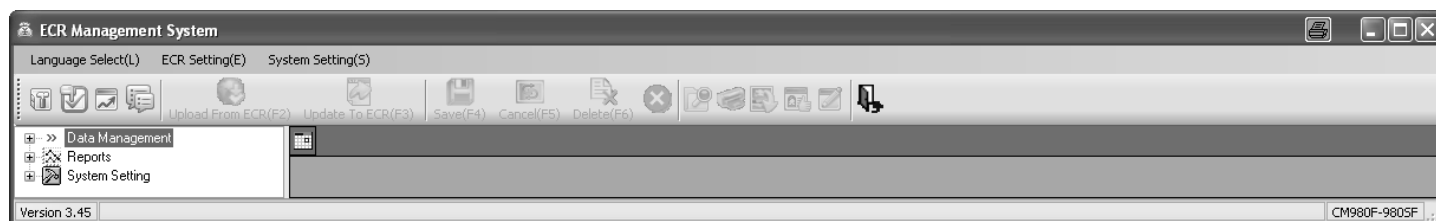

Fig. 4
The programme mask appears in which you can define all the settings (see Fig 4):
- Click on the plus sign to display the contents which are assigned to the general headings (see Fig. 4).